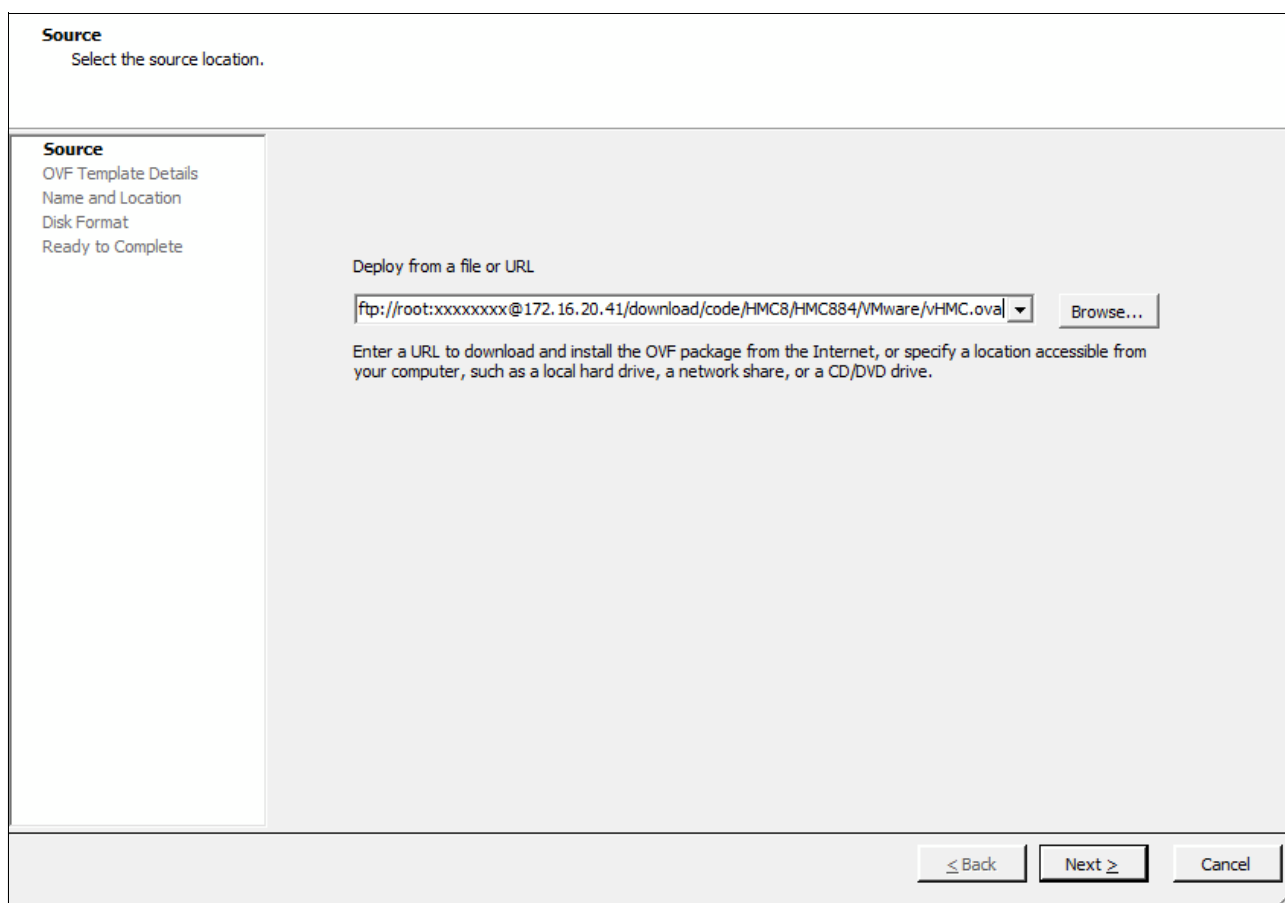

Figure 3-33 Deploy from a file or URL
3. You are prompted to browse to the OVA file location as shown in Figure 3-33. The default is to browse for an OVA file located on the workstation running the vSphere client. In this example, the deployment location uses a URL including the user and password: